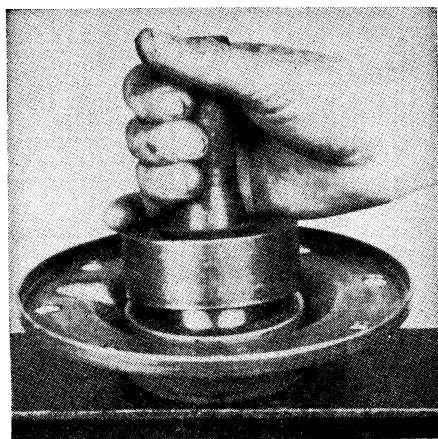

Fig. 107 Installing pinion shaft oil seal with seal driver
11. Lubricate pinion shaft oil seal and cover outer edge of seal body with a non-hardening sealing compound. Press seal against cover shoulder with seal driver, Fig. 107.